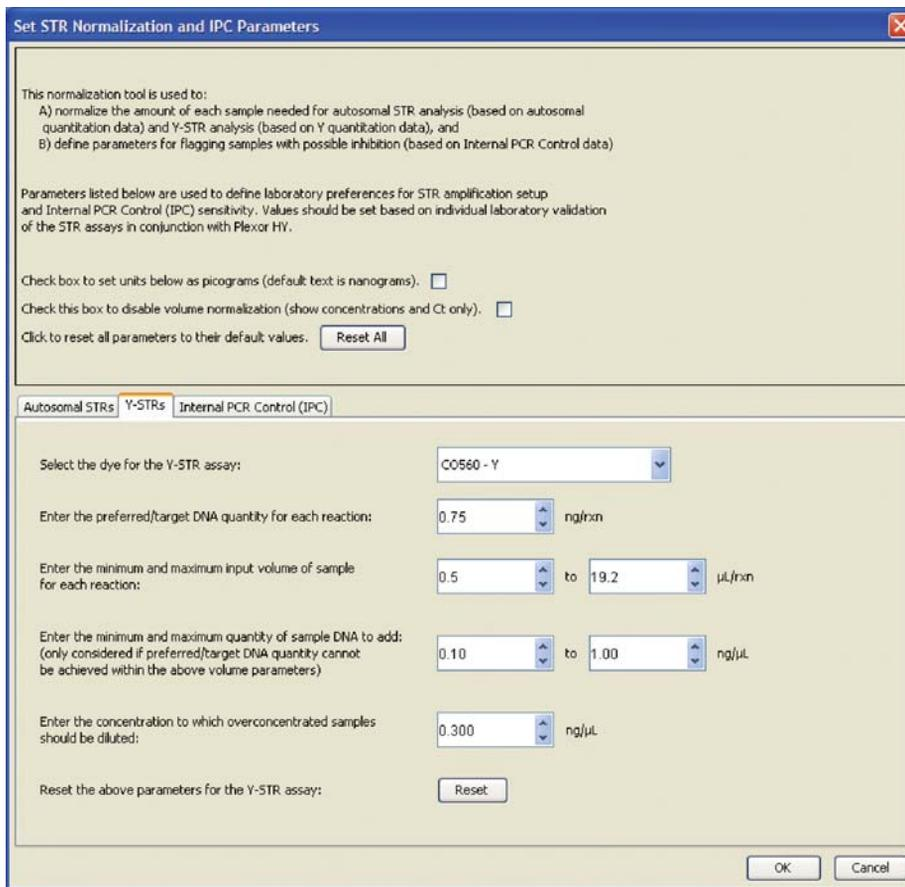

Figure 29. The Set STR Normalization and IPC Parameters window.
2. In the dialog box that appears (Set STR Normalization and IPC Parameters; Figure 29), be sure that the box next to “disable volume normalization (show concentrations and  $C_t$  only)” is not checked. If this box is checked, STR normalization data will not be displayed in the subsequent forensic report. See Section 8.F.
**STR Dilution Status (Autosomal or Y):** An indication of whether a sample contains DNA of adequate concentration to use directly in STR analysis or whether dilution is necessary. The status terms listed below are established by the values indicated in the Set STR Normalization and IPC Parameters window (Figure 29). Auto STR columns use autosomal quantitation results and are intended to guide setup of autosomal STR reactions. Y-STR columns use Y-chromosomal quantitation results and are intended to guide setup of Y-STR reactions.
**IPC Status:** An indication of whether the difference between the sample's  $C_t$  values for the IPC and DNA standard is greater than the designated threshold in the Set STR Normalization and IPC Parameters window (Figure 29). A difference of less than the designated threshold is indicated as "OK"; a difference greater than the threshold is indicated as "Check IPC".